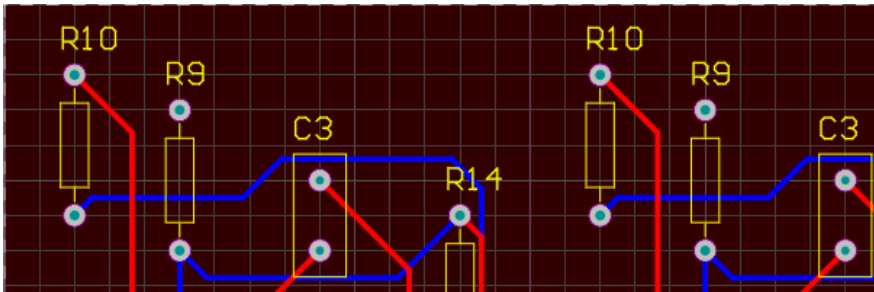

Figure 16. Logical Designators
27. Zoom back in to one of the rooms and notice the designators no longer have the room suffixes as shown in Figure 16. This compact format uses the original Logical designators, which correspond to the designators in the Editor tab of the schematic, for the channel input components.